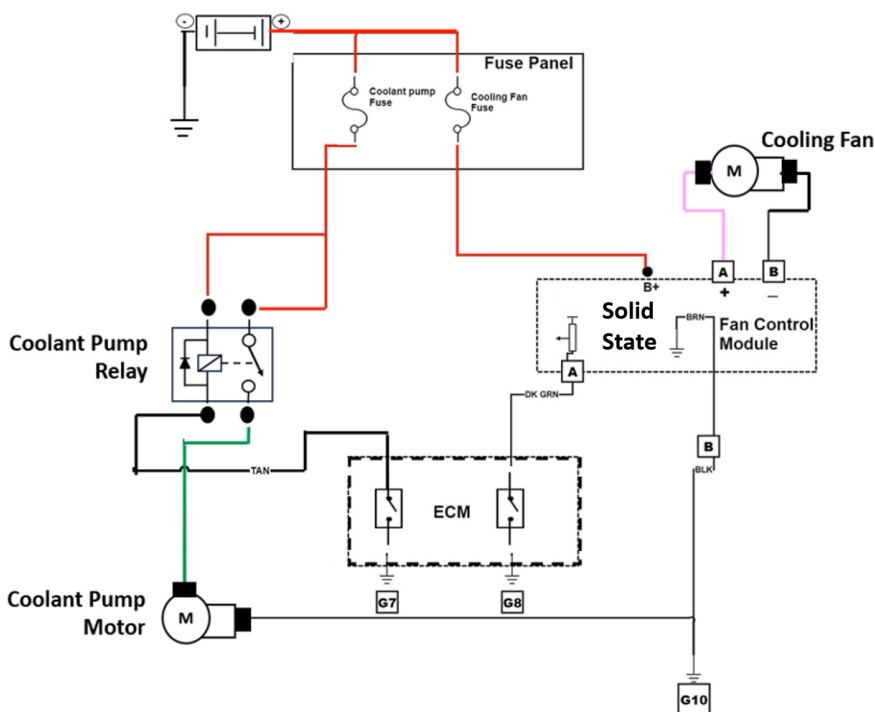

Figure 13. Schematic showing the two-speed fan motor and the coolant pump.
- One two-speed cooling fan, Figure 13.